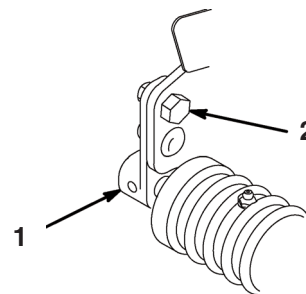

Figure 4
4. While holding the reel securely on the plate and maintaining pressure on the front roller, rotate the upper right roller mounting bolt (Fig. 4). This mounting bolt has an offset, which when rotated, acts as an eccentric (cam) to raise or lower the roller. On the bolt head there is an internal diameter dot that denotes the offset of the bolt. The dot indicates the direction in which the right end of the roller moves when the bolt is turned.